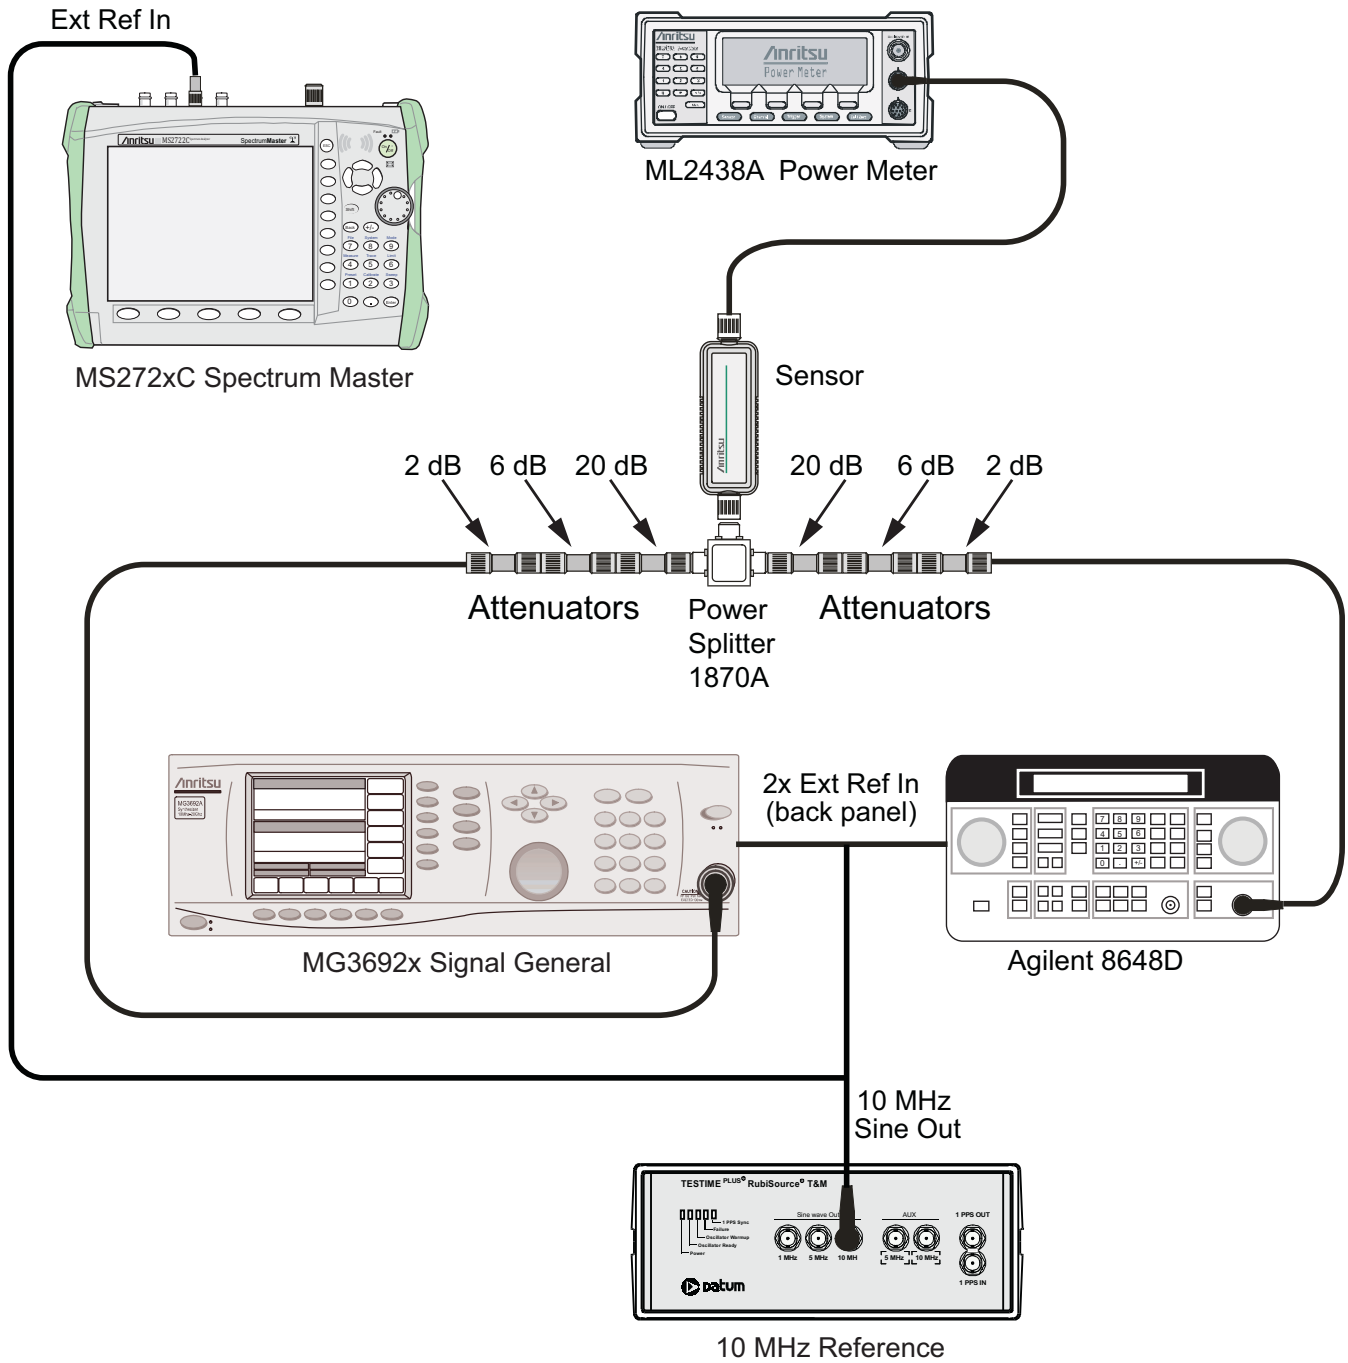
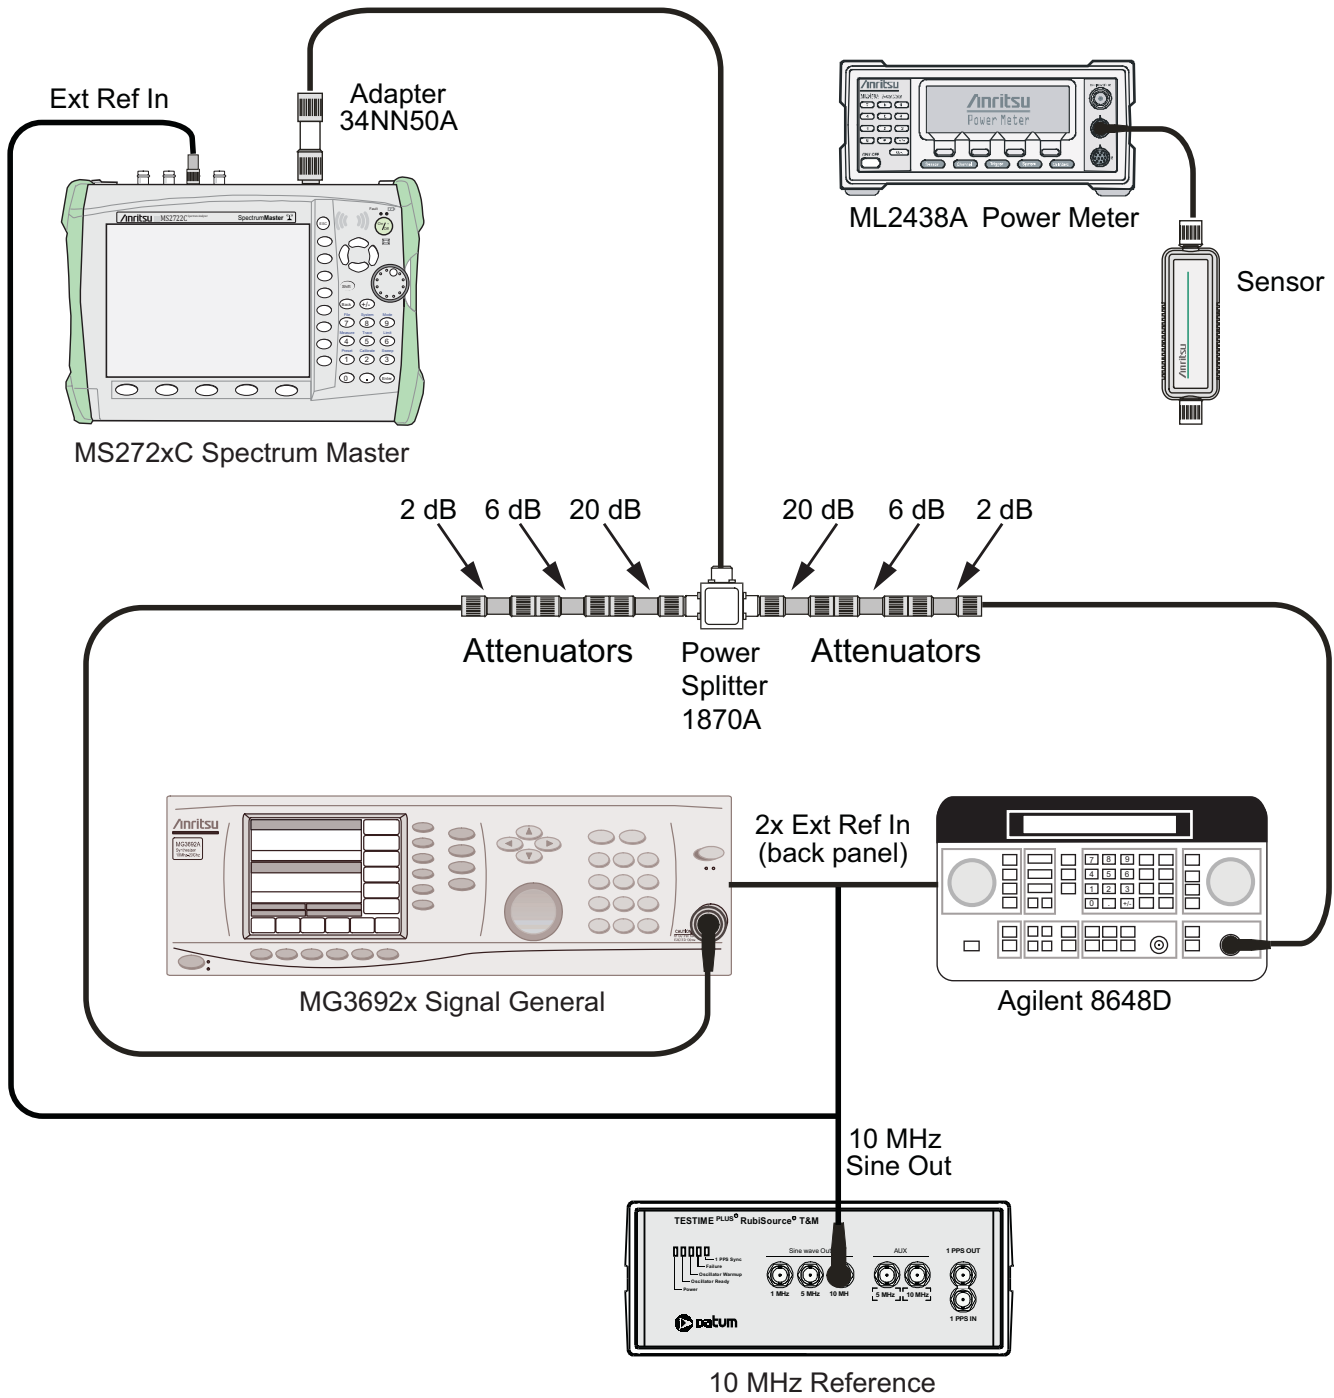

Figure 2-5. 2400 MHz TOI Verification Characterization, Component Characterization Setup
Figure 2-6. 2400 MHz TOI Verification, Test Setup
1. Connect the equipment as shown in Figure 2-5. The splitter will be used as an RF combiner (the normal RF outputs will become inputs, and the normal input will become the RF output).
8. Set the MS272xC to Spectrum Analyzer mode and then Preset the instrument. Press the **Shift** key, the **Sweep** (3) key, Sweep Mode submenu key and then the Performance submenu key.
10. Press the **Shift** key and the **Sweep** (3) key. Press Detection, and press RMS (red dot appears on the label).
11. Disconnect the power sensor from the output of the splitter and connect the splitter output to the MS272xC Spectrum Analyzer RF In connector through the Anritsu Model 34NN50A or 71693-R adapter (Figure 2-6 on page 2-24).
13. Press the **Shift** key and then the **Trace** (5) key. Press Trace A Operations, and set # of Averages to 2.